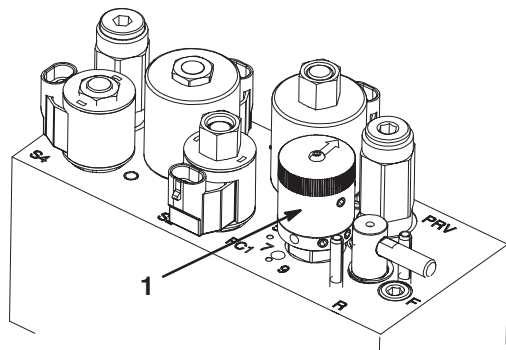

Figure 31
- To set the reel speed, rotate the knob (Fig. 31) until the indicator arrows are in line with the number designating desired setting.